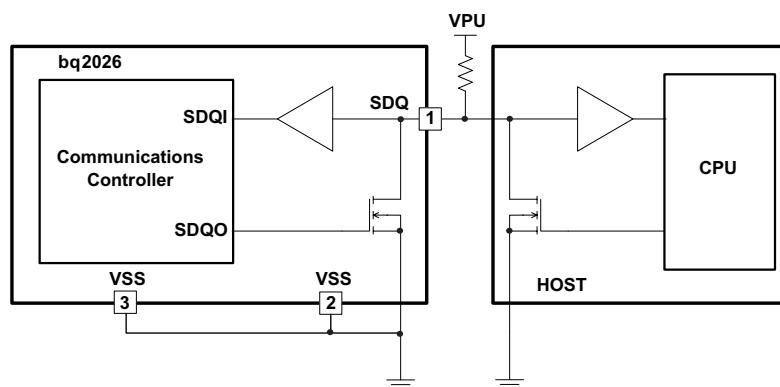

Figure 1. Bus Termination Example for SOT-23 Package
(1) 5-k Ω series resistor between SDQ pin and V_{PU} . (See Figure 1)
Because the drive output of the bq2026 is an open-drain, N-channel MOSFET, the host must provide a source current or a 5-k Ω external pullup, as shown in the typical application circuit in Figure 1.